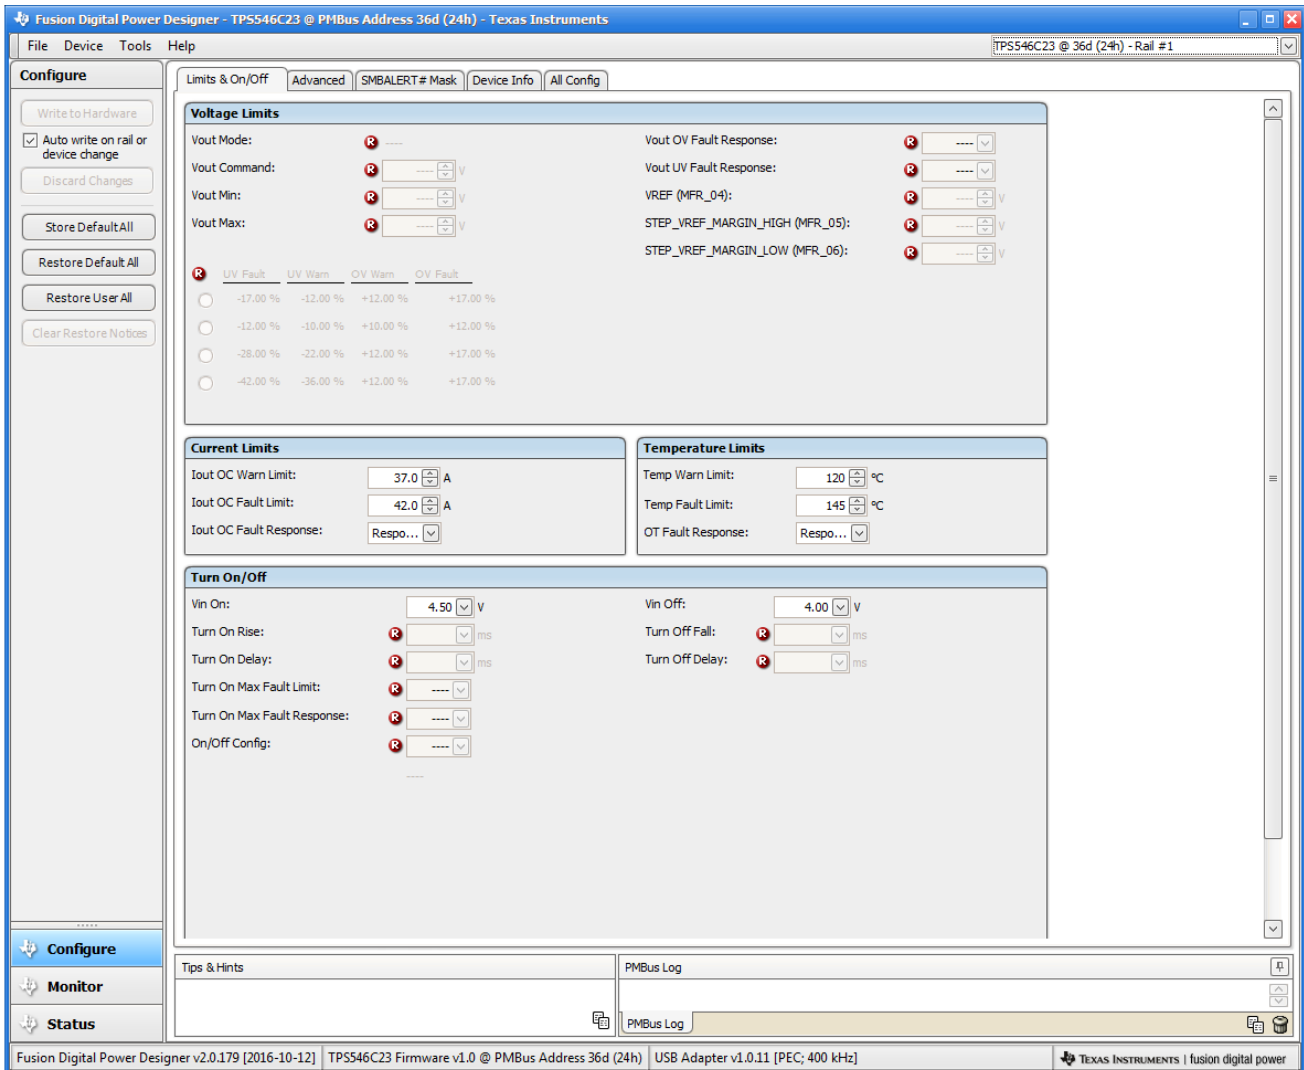

Figure 10-2. Configure – Limits and On/Off
- Use the **Limits & On/Off** tab (Figure 10-2) to configure the following: